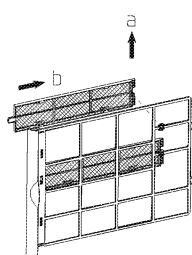

Figure 15
- Remove the 2 purifying filter frames from the main filter (See Figure 15).
### **PURIFICATION FILTER REPLACEMENT** (See Figures 15, 16, 17)
- Remove the two purifying filter frames from the main filter (See Figure 15).